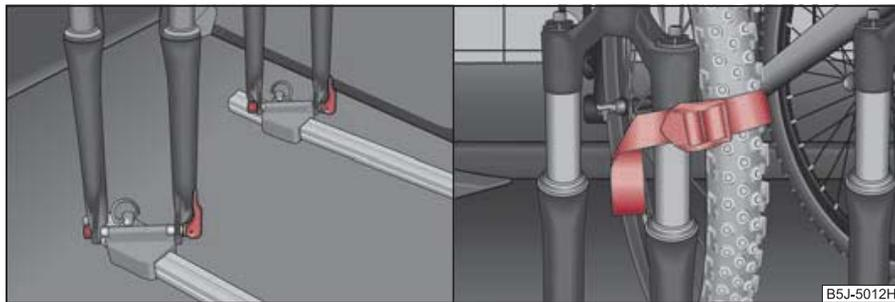

Fig. 71 Put in the bicycle/fastening the front wheel
- Fit the bicycle fork onto the fixing axle and tighten with the quick tension jack ⇒ fig. 71 - left.
- It is best to push the removed front wheel between the crank of the left pedal and the bicycle frame, attach it with a strap to the front fork ⇒ fig. 71 - right, and/or to a fixing point.